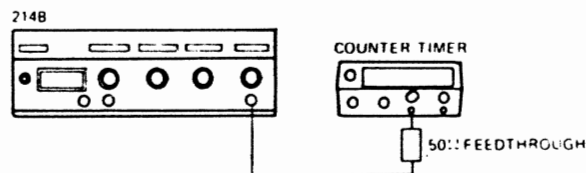

Figure A3-1
1. Connect equipment as shown in Figure A3-1 and set 214B controls as follows: